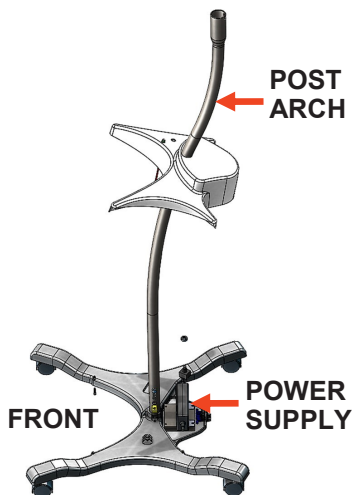

Figure 9A: Post orientation.
11. Position the post so that the arch is located at the back of the base, refer to Figure 9A. Insert the post into the hole in the base. Slide the attachment bar through the square slots in the post. When inserting the post, make sure the wires (A) are facing the front of the base and **NOT** towards the power supply.